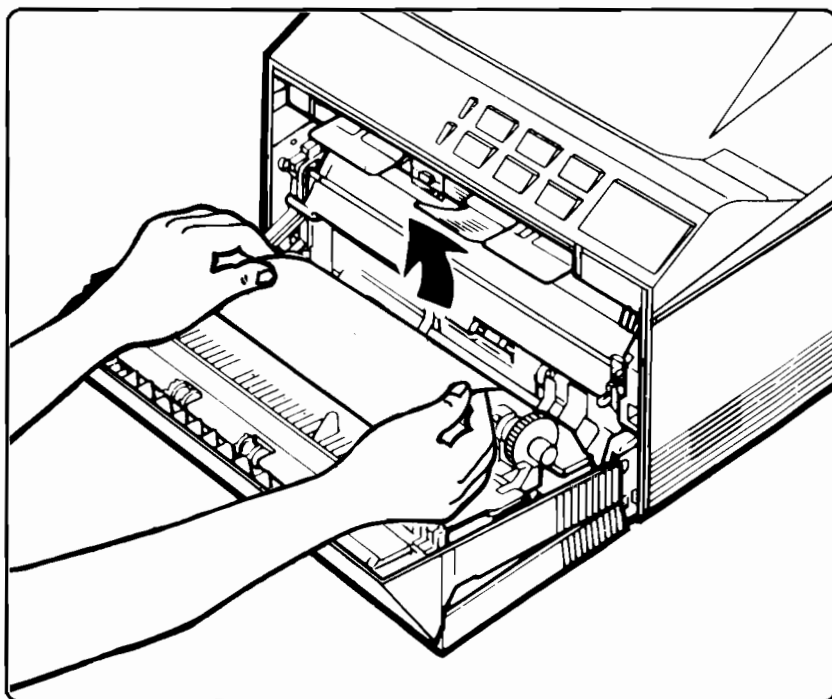

Figure 4-12. Clearing the Paper Pick-Up and Fusing Area
1. If paper jams between the pick-up area and the fusing area, use two hands when removing the paper to avoid tearing (see Figure 4-12).